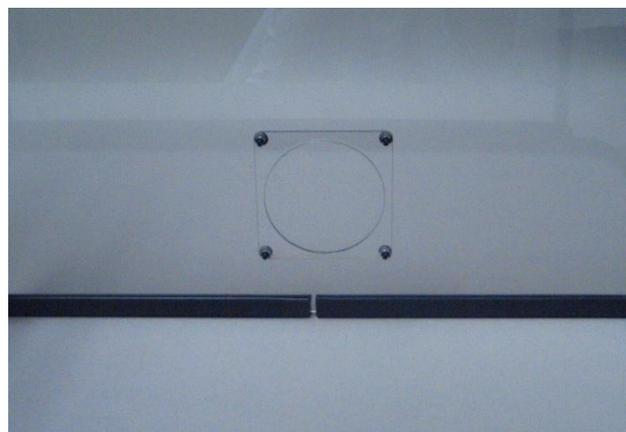

Figure 1. Plate covering round hole on Agilent SPS 3 cover
- 1 On the back of the Agilent SPS 3 cover there is a small square plate that covers a round hole (see Figure 1). Four black plastic rivets are used to hold the square plate to the cover. Carefully remove the square plate by removing each of the four rivets using pliers.